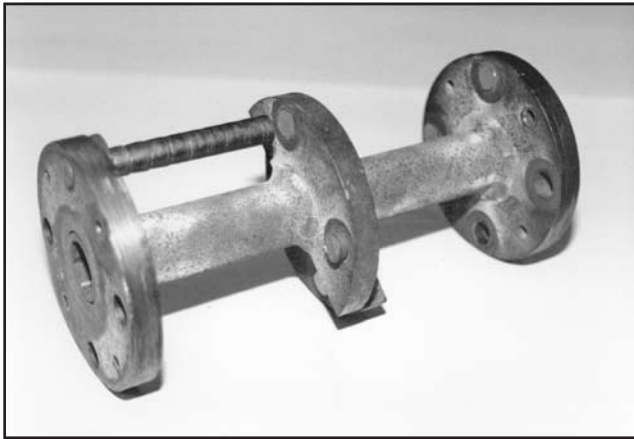

FIGURE 8
1) Inadequate free play exists between the flails/spacer washers and the support plates of the flail drum. If the flails and spacer washers do not have complete freedom of movement, they will not be capable of properly rotating about the flail drum rod. The result is rod wear confined to two locations that are usually 180 degrees apart. FIGURE 8. Variations in flail and spacer washer thicknesses affects free play when assembled on the drum. Because free play is also created during the planing process due to actual flail and spacer washer wear, a certain amount of "tightness" can sometimes be tolerated without affecting the service life of the drum rods or flails. The specific amount of "tightness" can usually be determined through trial and error. If the flails and spacer washers appear too tight on the drum, remove an appropriate flail or washer and reassemble the drum. If a short, operational test indicates normal component wear patterns, the apparent problem has been solved. A general rule for consideration: it is better to have the flails and spacer washers a "little too loose" on the drum than a "little too tight".